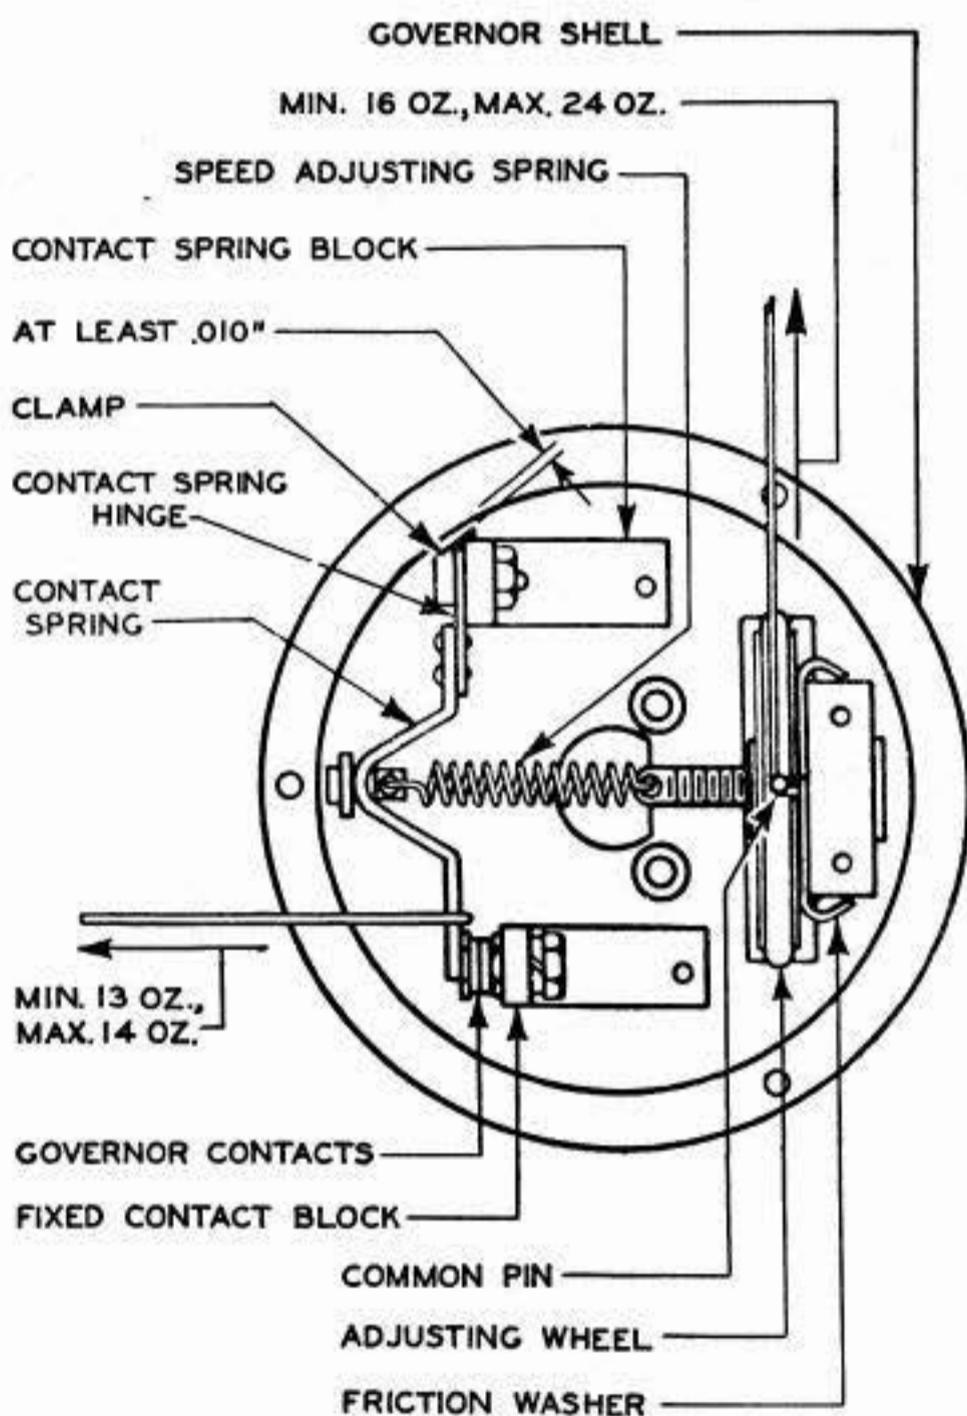

Fig. 8
4.03 **Contact-Spring Block:** There should be at least .010" clearance between the contact-spring block and the inner rim of the governor shell. **Fig. 8**
4.05 Adjusting-Wheel Friction-Washer Tension: It should require min 16 oz, max 24 oz to start the friction wheel moving. **Fig. 8**